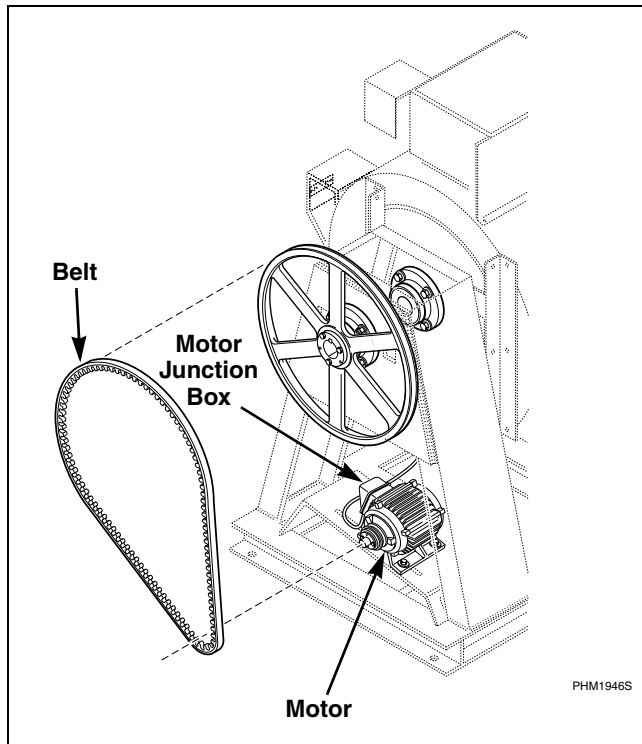

Figure 15
- Loosen the four bolts attaching the motor to the frame to relieve the belt pressure. Remove the belt. Refer to *Figure 15*.
- Remove the motor junction box cover. Refer to *Figure 15*.